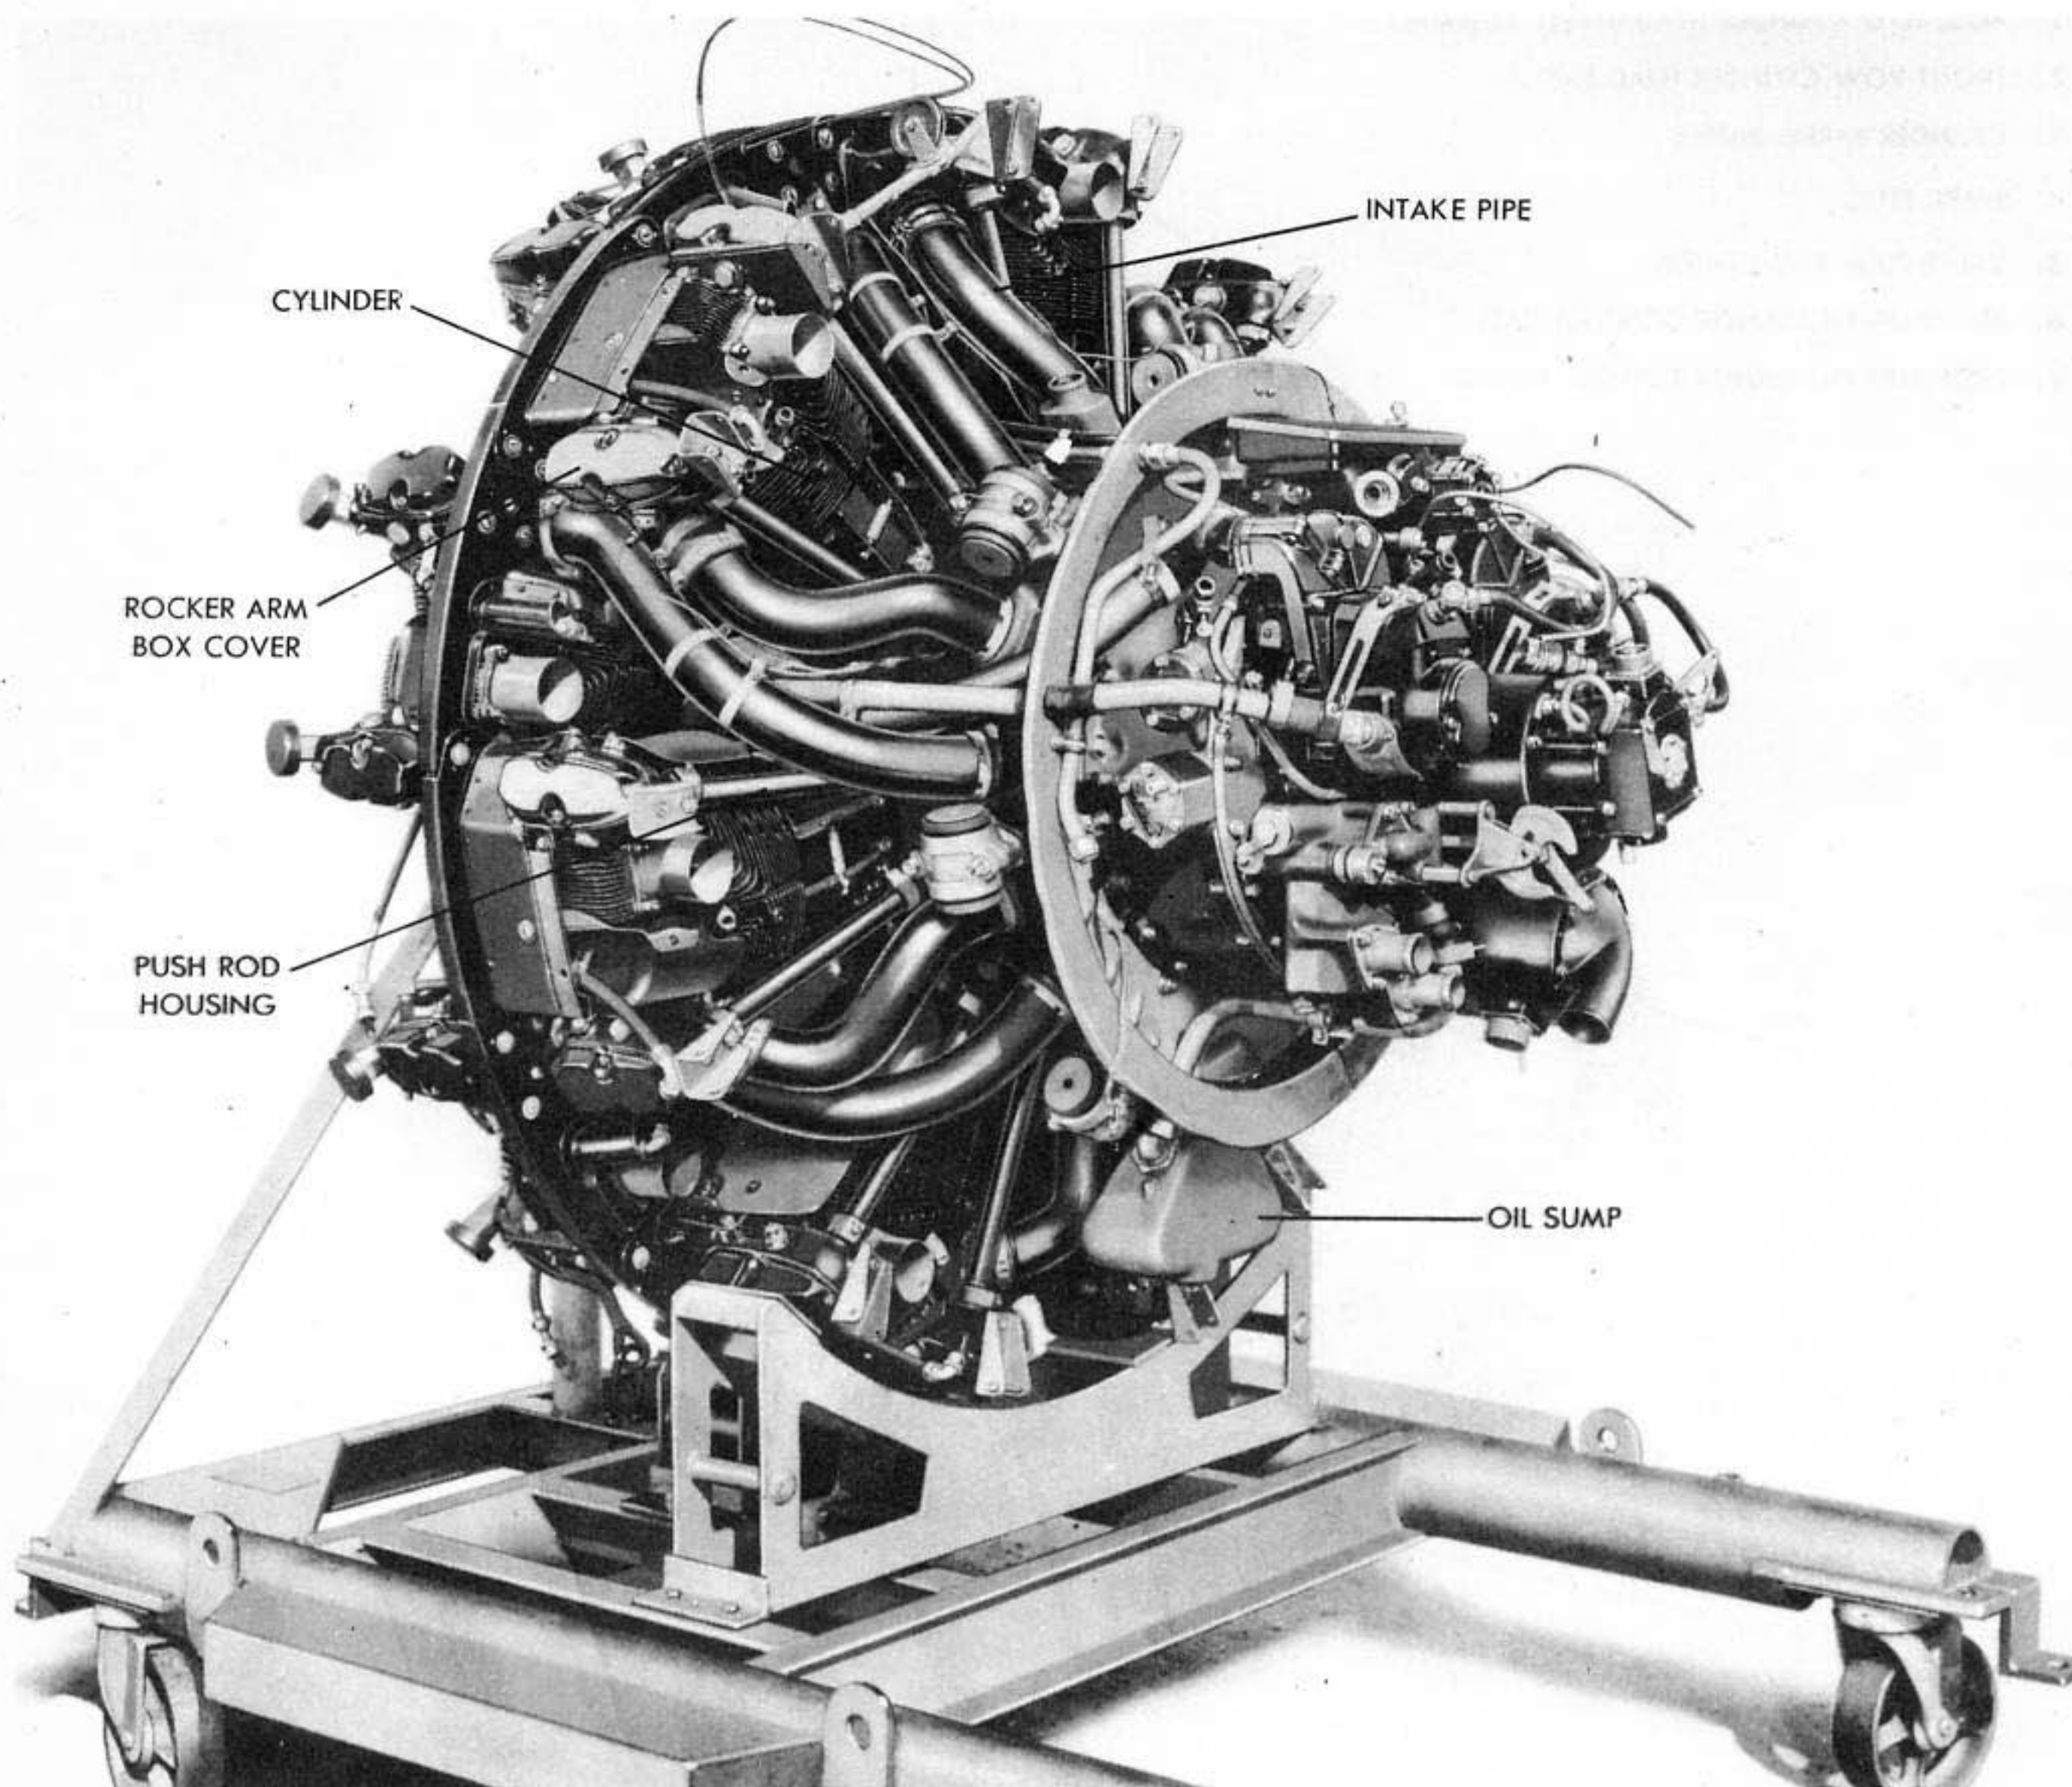

Figure 97 - RIGHT REAR VIEW OF REMOVED ENGINE
8. REMOVAL OF OIL SUMP. (See figure 97.)